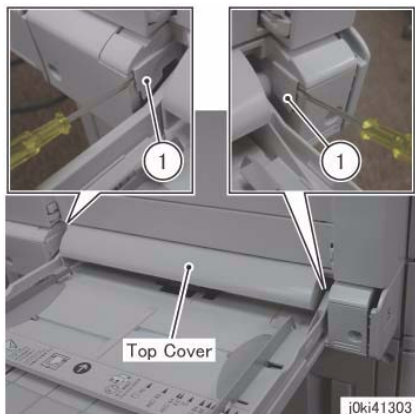

Figure 1 Remove the Top Cover
3. Remove the Top Cover. (Figure 1)